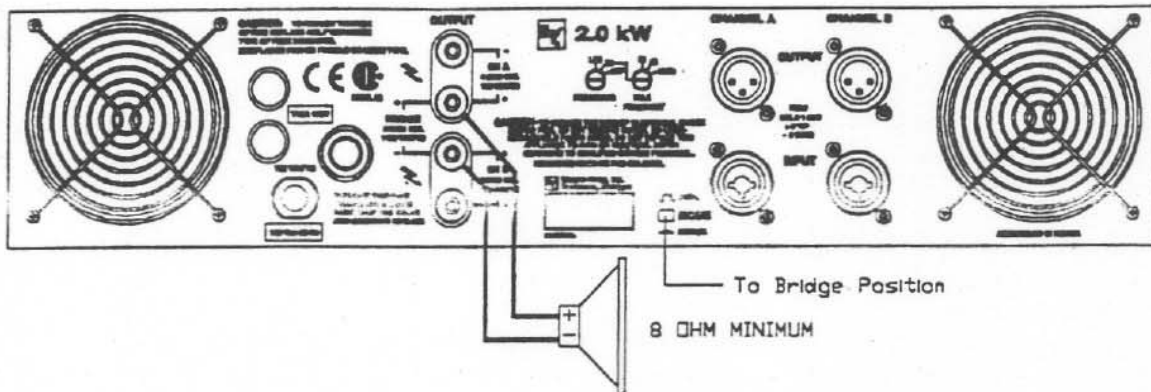

Figure 3
**BRIDGE MODE** - In BRIDGE mode the output load of  $8 \Omega$  or higher is connected across the two Red binding posts. Channel A's Red binding post is the (+) terminal and channel B's Red binding post is the (-) terminal (see figure 3). The input signal is connected to channel A. The channel B input connector is internally disconnected from the channel B amplifier and the channel B amplifier is connected to the channel A input signal after it has been shifted in phase by  $180^\circ$ .